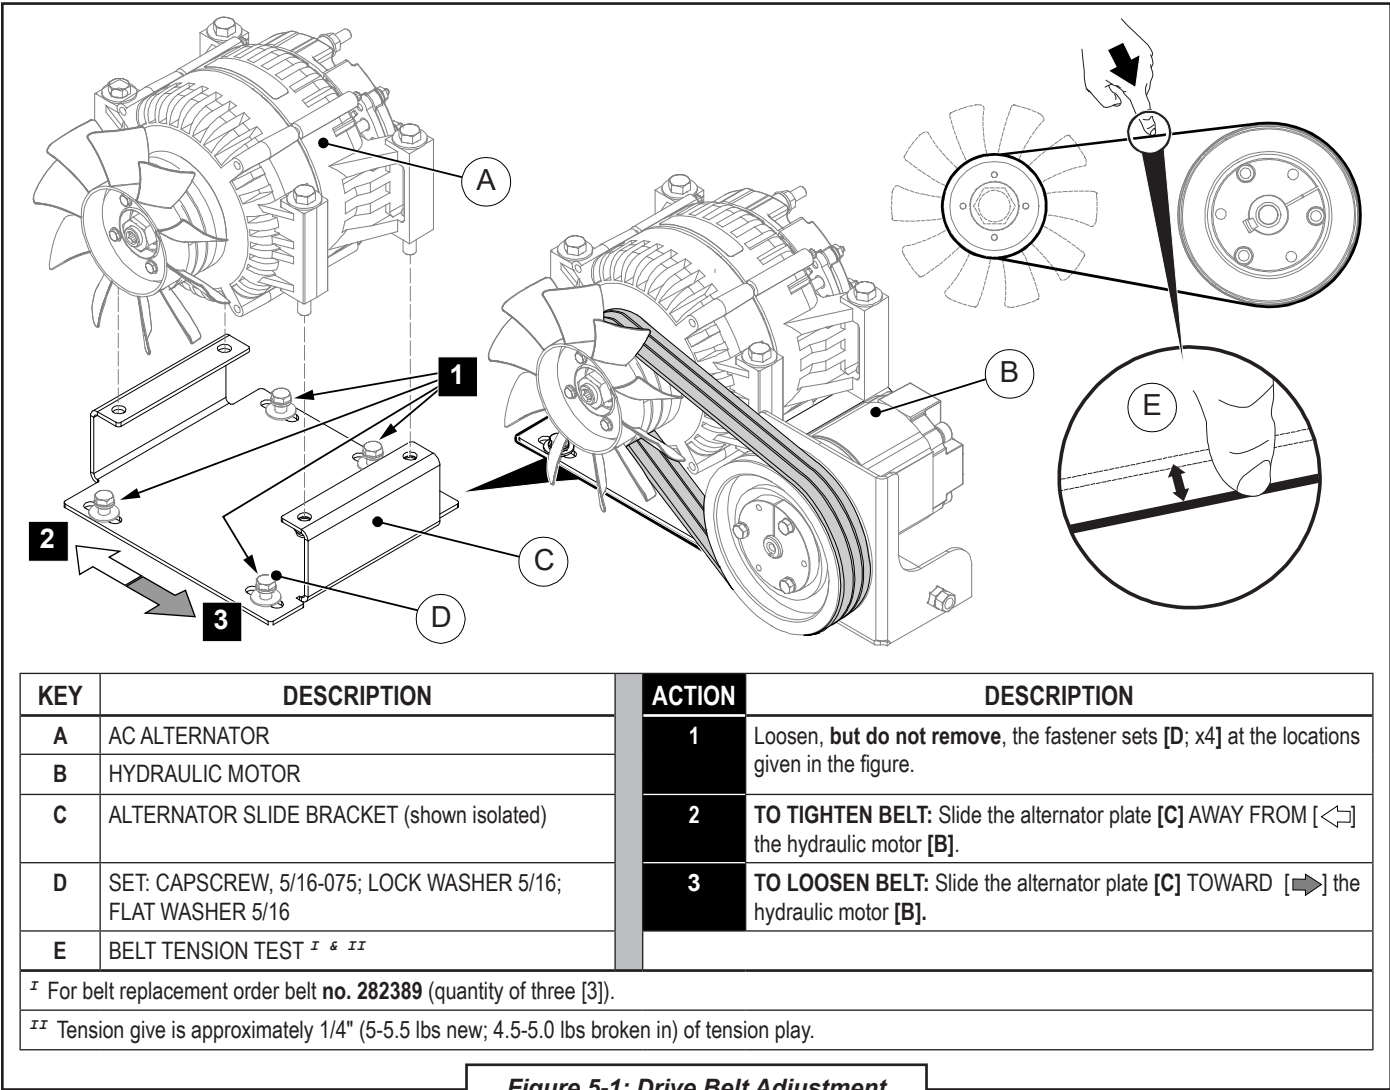

Figure 5-1: Drive Belt Adjustment
Refer to **Figure 5-1** and the following procedure.
check the belt tension by performing the "tension test", which consists of pressing the center area of the belt between the sheaves (see **Figure 5-1**), to determine the tightness of the belt.
4. Once the belt shows a suitable "give" (see footnote in **Figure 5-1**), tighten the cap-screws [D], in a criss-cross pattern, torquing to 13 ft-lbs.
If drive belts need to be replaced, order replacement belt **no. 282389** (quantity of three [3]). Refer to **Figure 5-1** and the following:
2. Route the new belt route over the fan (alternator) side of the drive assembly first, then position the belt on both sheave tracks as shown in **Figure 5-1**.
4. **TO TIGHTEN BELT:** Tighten the belts by nudging the slide plate [C] away from [↔] the hydraulic motor. Check the belt tension as this is being performed, until the belt tension is within the parameters given in the footnote of **Figure 5-1**.